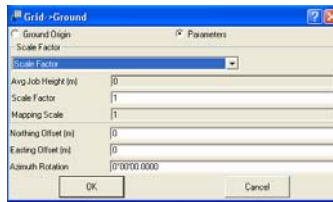

Figure 2-22. Creating Ground Projection Using Parameters Option
**Method One:** Rotation of the ground system is performed relative to the origin of the Grid coordinate system. Click and enable the **Parameters** radio button (Figure 2-22) and take the following steps:
- select **Scale Factor** from the drop-down list in the **Grid->Ground** dialog box (see Figure 2-22 on page 2-17) and enter the value of the Scale Factor. This value can be taken from the *Combined Grid to Ground Scale Factor* field of the